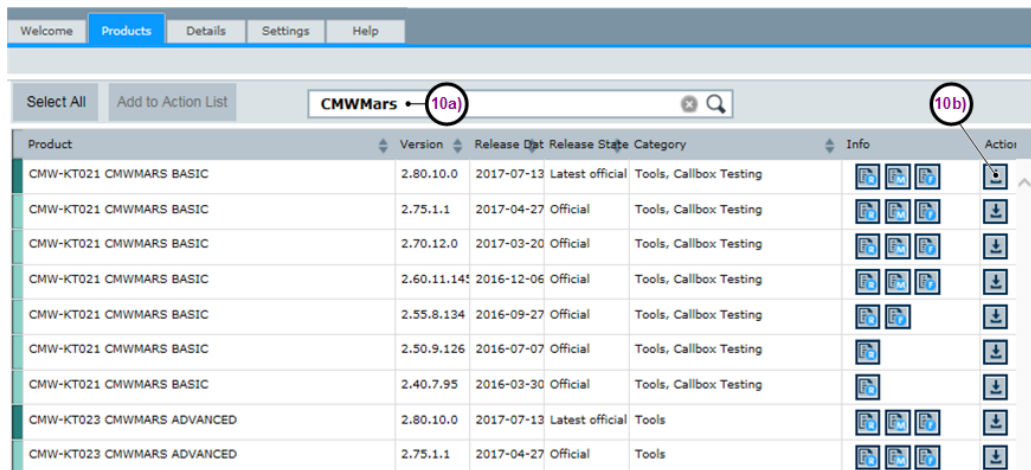

Fig. 10-3: CMWmars variants at the Installation Manager
10. Download CMWmars (Fig. 10-3):